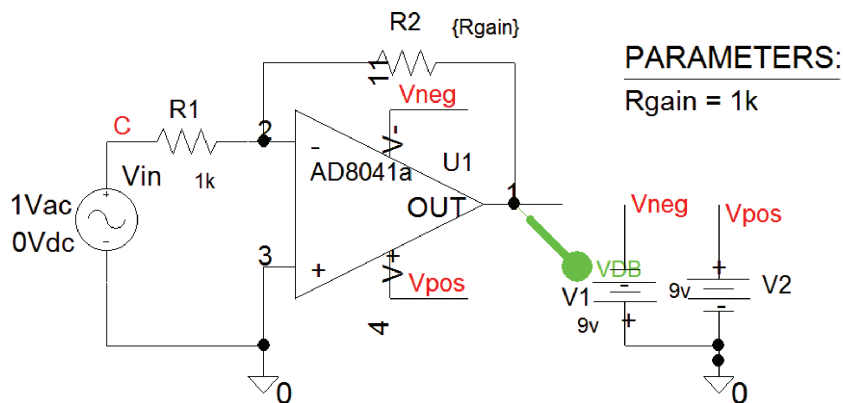

FIGURE 8.41: Inverting op amp
- (8) The schematic in Fig. 8.41 uses the very good specification AD8041 opamp. Select the resistor R_2 and enter the value {**Rgain**}. Place and select a **Param** part from the **Special** library. Highlight **NAME1**, and enter Rgain in the **Value** box. Similarly, select the **VALUE1** attribute, and enter 1k in the **Value** box. From the **Analysis Setup** menu, select **Parametric**, and in that sub menu, define **Name** = Rgain, **Start Value** = 1k, **End Value** = 100k, and **Increment** = 20k.
The frequency response in Fig. 8.41 shows how the AD8041 is a much superior op amplifier with a much larger passband frequency range compared to the very poor ua741 op amp frequency response.